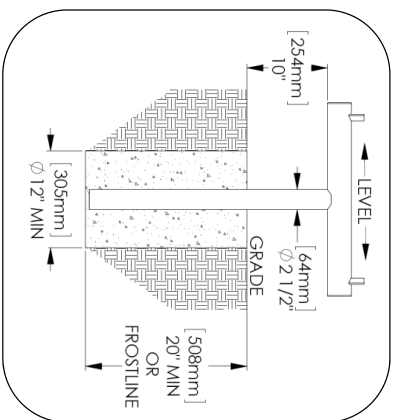

Fig. 10 – Embedded
4. Excavate area for each vertical support as shown in Fig. 10.